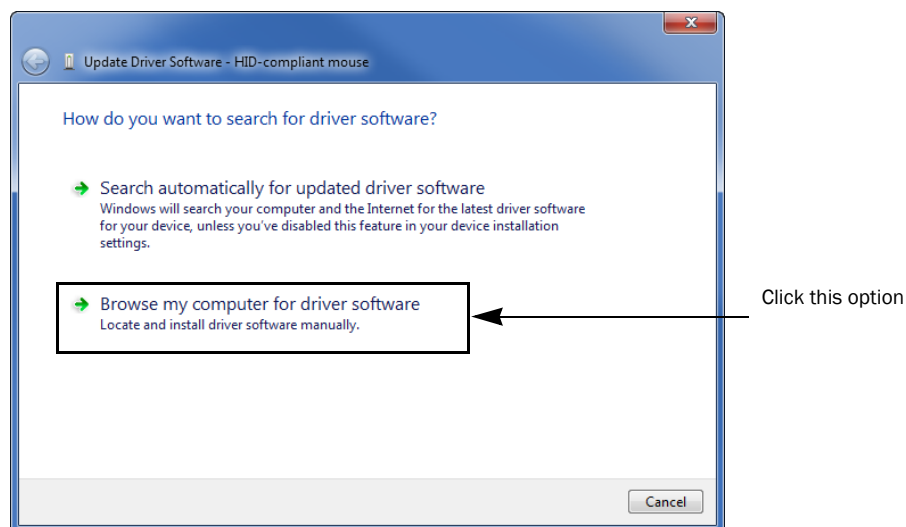

Figure 17. The Update Driver Interface
4. Click the **Browse my computer for driver software** option (Figure 17 on page 33).